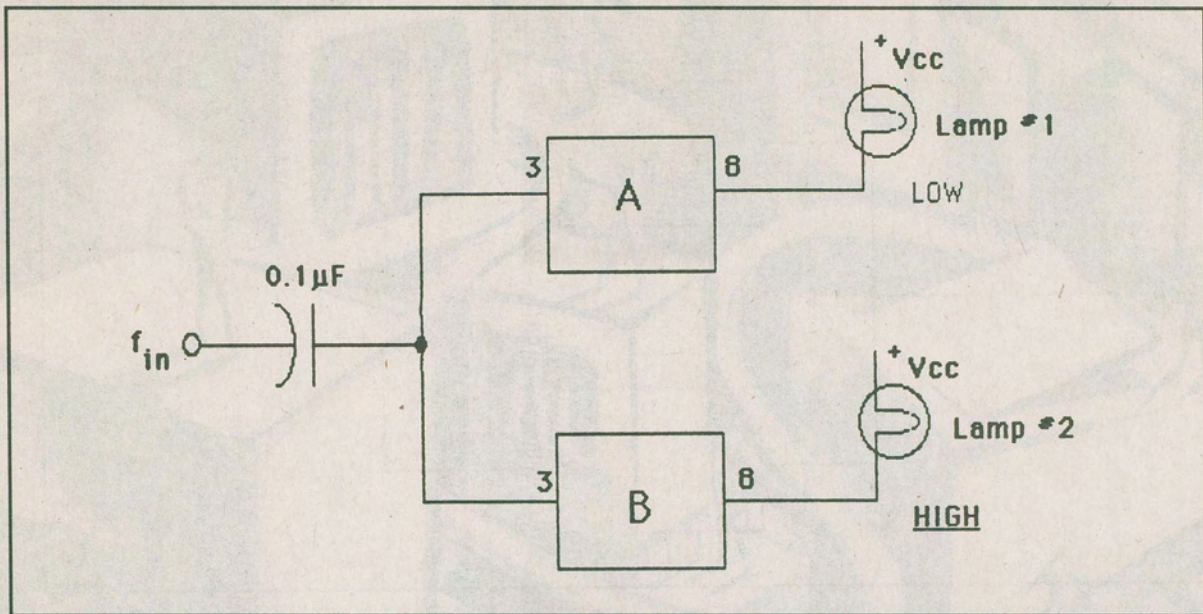

Figure 5.
The construction of a low cost frequency indicator is a novel application for the 567 IC shown in Figure 5. The decoder labelled (A) is set approximately 6% above the desired frequency, while the other decoder labelled (B) is set 6% below. If the input frequency is within 13% of the desired frequency, either lamp No. 1 or lamp No. 2 will come on. If both are on, then the frequency is within 1% of the desired frequency.